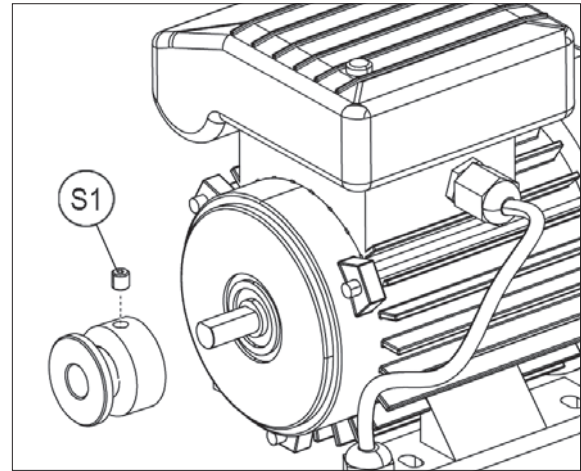

Fig. 63
- 9) Loosen the grub screw (S1) and remove the drive pulley (Fig. 63).